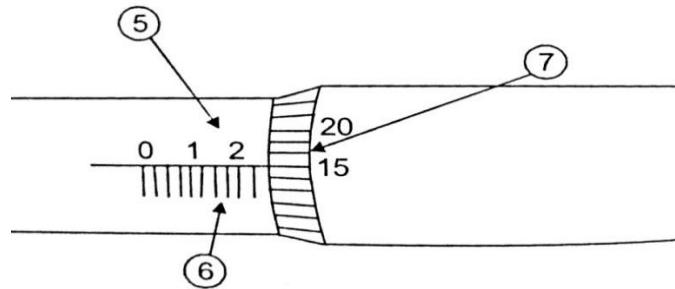

Fig.18
1. Read highest figure 18, visible on barrel (5) = 2 = 0.200 in.
2. Number of lines visible between the No. 2 and thimble edge (6)=1 = 0.025 in.
3. The line on the thimble that coincides with or has passed the revolution or long line in the barrel (7)=16 = 0.016 in.